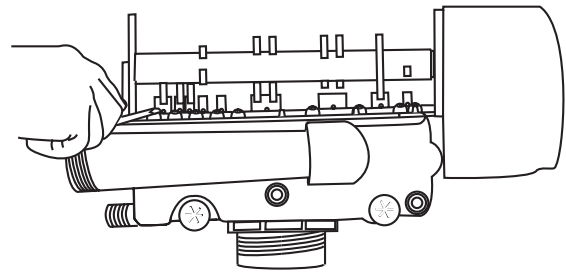

Figure 14
- Relieve system pressure by opening the Backwash Drain Valve (the seventh valve back from the control) with a screwdriver, (Figure 14).
2. Relieve pressure by opening the Backwash Drain Valve (the seventh back from the control) with a screwdriver (Figure 14).